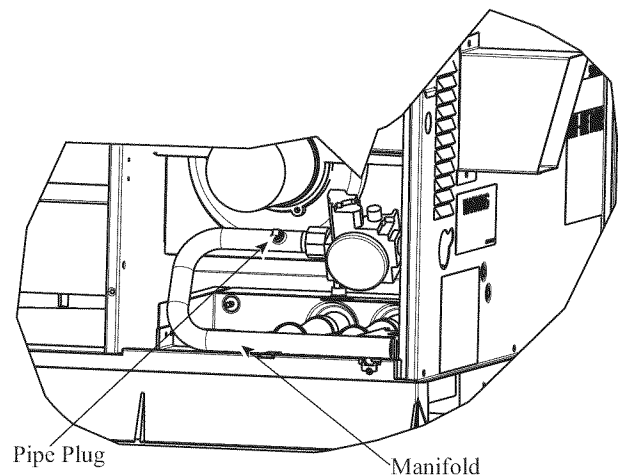

Fig. 21 - Burner Assembly
- b. Remove pipe plug on manifold (See Fig. 21 and connect manometer. Turn on gas supply to unit.
- c. Replace pipe plug on manifold (See Fig. 21).